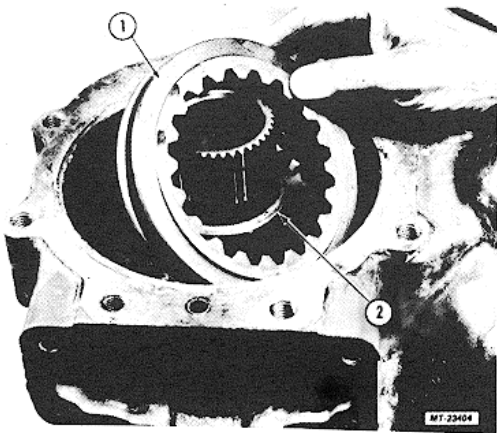

Fig. 46. Installing Clutch Shift Collar
1. Position diff lock clutch shift collar on input gear (Fig. 46).